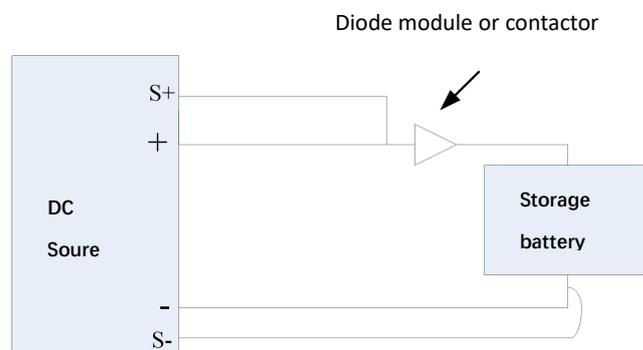

Fig. 2-2 Battery Load Wiring Mode
1. Wiring must be conducted as shown in Figure 2-2: